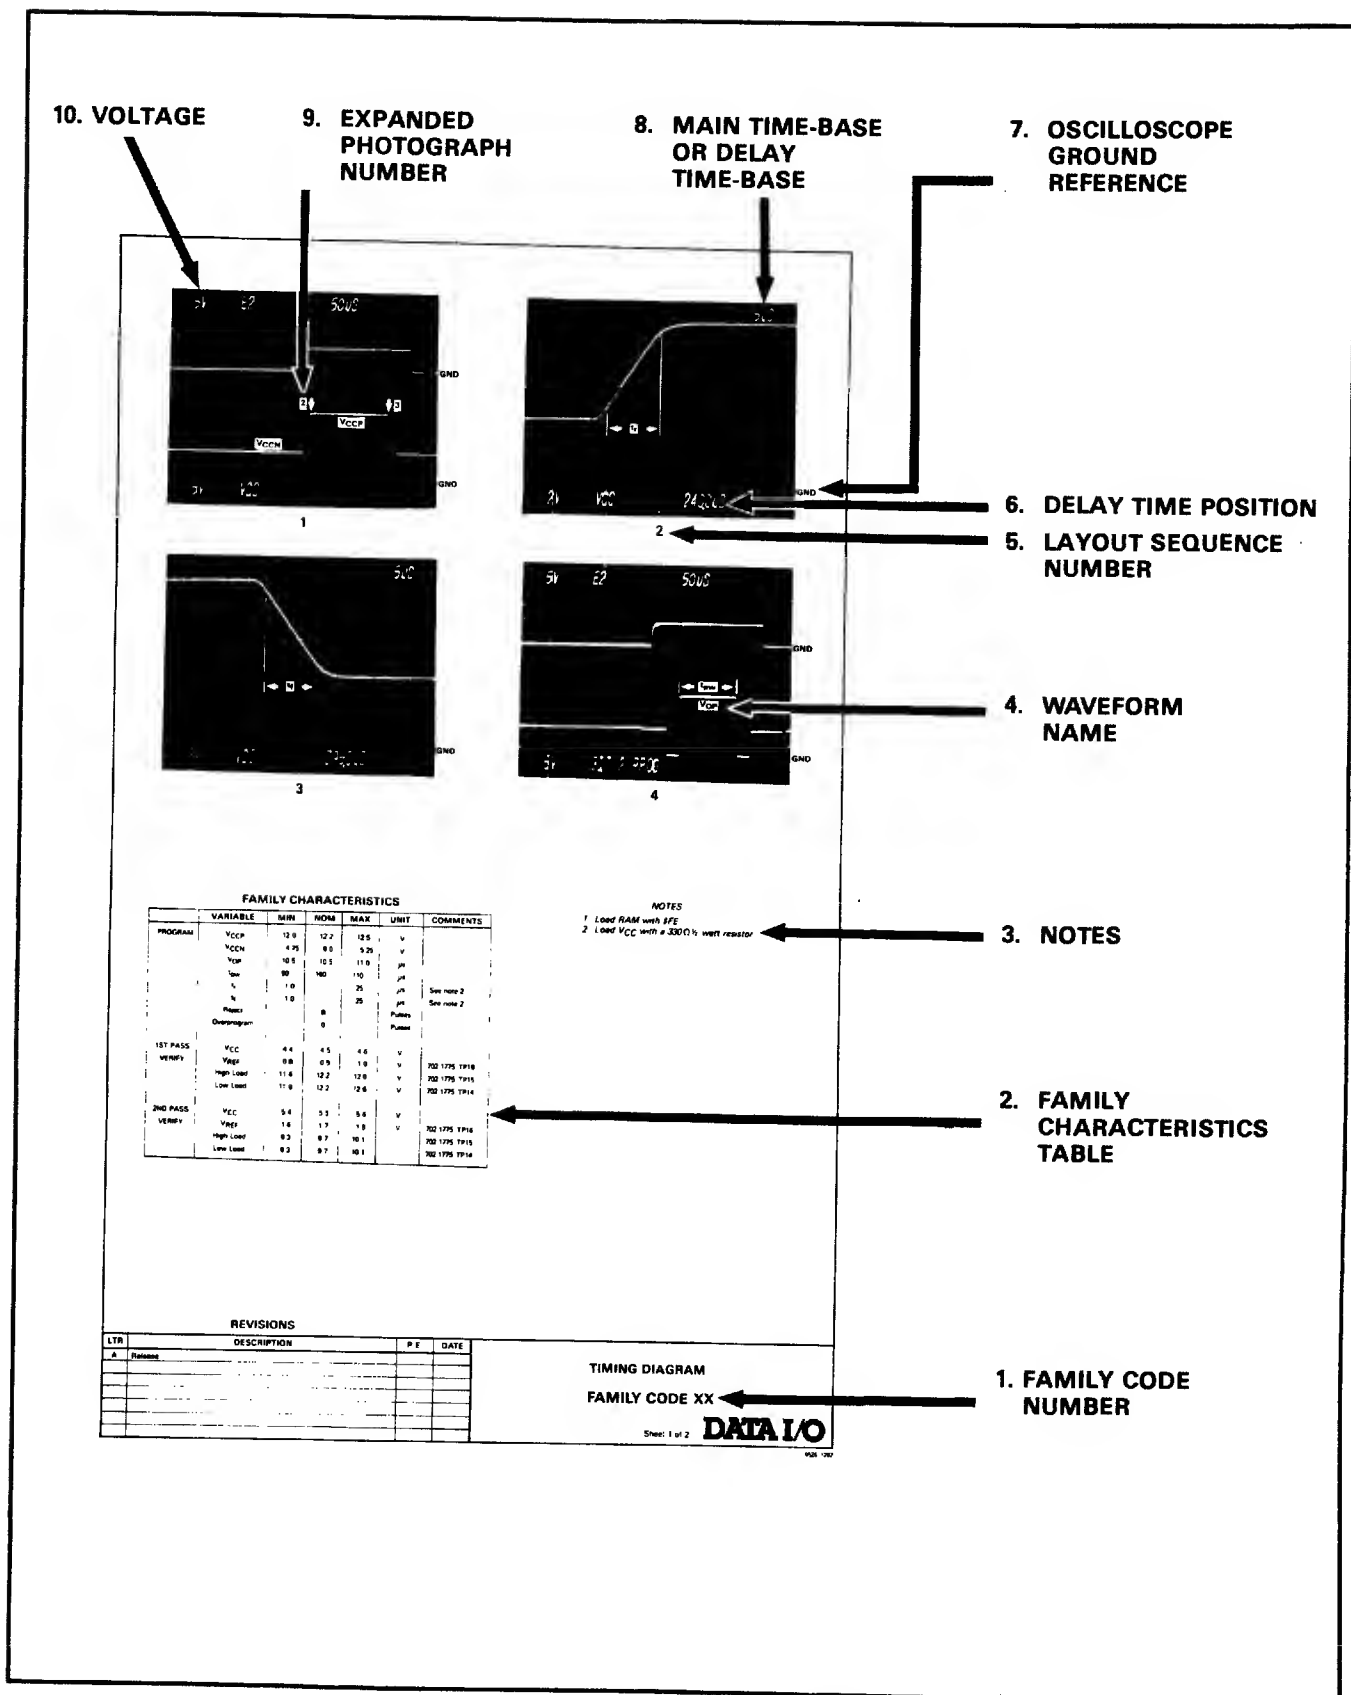

Figure 4-4. Sample Timing Diagram
9. To observe individual waveforms, refer to figure 4-4 under the pinout code number entered in step 3. The individual socket illustrations give the numbers of the socket contacts to probe when observing the waveforms on the timing diagram.
This manual contains a timing diagram for each device family that can be programmed by the 22B. Each timing diagram contains a set of waveform photographs that show critical programming parameters. To help you use these diagrams and photographs, read the information that follows and refer to the sample timing diagram (figure 4-4).